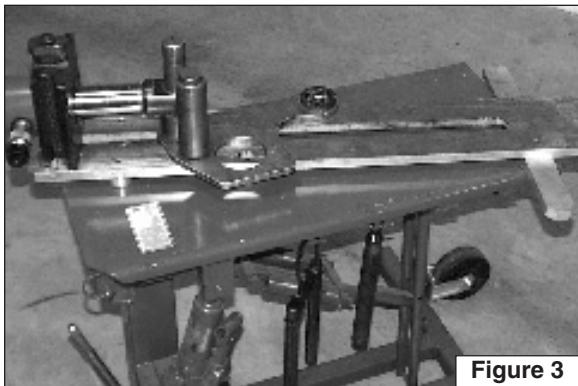

Figure 3
3. Line up the two (2) pads and stabilizer bar, removed in Step 1, on the table top over the four (4) mounting holes as shown in Fig. 3. Position the load arm / cylinder assembly on the two (2) pads and stabilizer
bar on the table top with the cylinder positioned as shown in Fig. 3. Line up the four (4) tapped holes in the load arm with the four (4) mounting holes in the table top. Fasten the load arm to the table top with the four (4) 1/2 - 13 UNC x 1 3/4 long hex head cap screws supplied with the table. Insert the cap screws through the bottom of the table top plate through the pads and into the tapped holes of the load arm. (Torque the cap screws to 50 ft. lbs.)